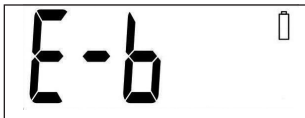

Figure 40
2. When the “” symbol appears together with the “E-b” symbol on the display, the battery does not have enough power for a test. You must change the battery before using the meter. See *Figure 40*.